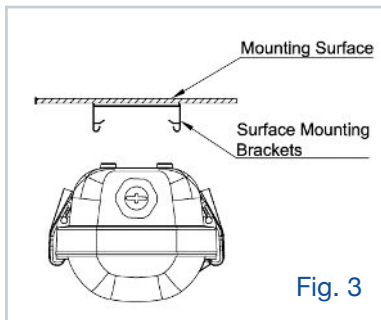

Fig. 3
2. Attach the back of the luminaire's housing into the mounting brackets (Fig. 3). Ensure the LED tray is secured with the safety tethers. Unlatch the Lens and Tray Assembly from Housing (Fig. 4)